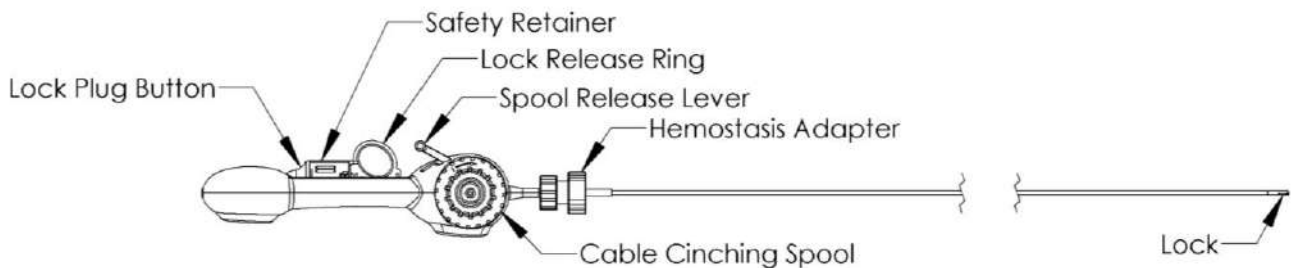

Figure 9: Flexible Lock Catheter
- Flexible Lock Catheter** – In the event the Implant must be terminated prior to completion (eg: due to hemodynamic instability, or if the Implant should be locked without cinching, e.g., insecure anchors in 2 or more adjacent windows or 4 or more total loose anchors) the Flexible Lock Catheter may be used to safely lock the Implant in place at any time during the procedure. Similar in design to the Cinch and Lock Catheter, this catheter can track over the Cable within the Guide and contact the most proximal Anchor of the Implant. The added flexibility of this catheter allows tracking around the subvalvular space to contact the most proximal Anchor regardless of its distance from the Guide. The handle of the catheter provides controls for removing slack from the Cable, Lock plug insertion and Lock release. **The Flexible Lock Catheter should NOT be used for cinching the Implant.** See Figure 9.